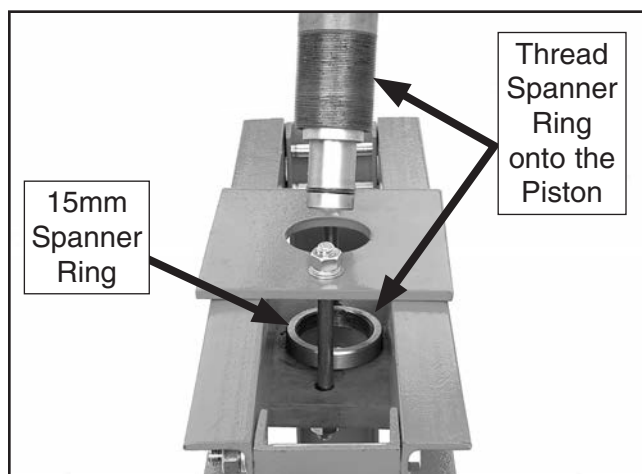

Figure 11. Piston installation.
11. Position the 15mm spanner ring on top of the lower support plate, and install the piston assembly through the top of the support plate holes, as shown in **Figure 11**.
12. Make sure that the thin 15mm spanner ring shown in **Figure 11** is threaded onto the piston housing completely. Otherwise, there will not be enough thread exposed for the thicker load-carrying spanner ring below. The 25mm spanner ring must have full thread engagement as this ring is the only support for the piston during all press operations.